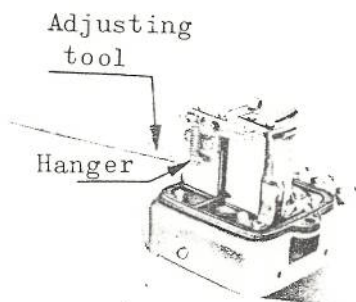

Fig. 10-19
- 1) Check and adjust the gap with reference to subparagraph (1)-1) and 2).
- 3) If the armature attracting voltage is maladjusted, readjust it by adjusting the tension of the coil spring as illustrated in Fig. 10-19.